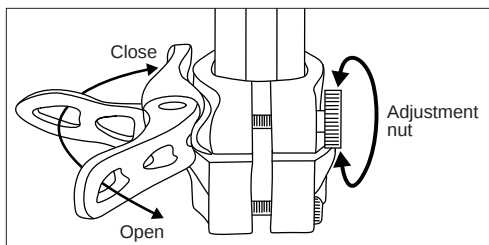

Fig. 29: Octagon® quick release adjustments
4. Close the quick release lever. The tightness of the lever is adjusted by rotating the adjustment nut opposite the quick release lever. Turn the nut by hand to adjust the tension while holding the lever stable (Fig. 29).